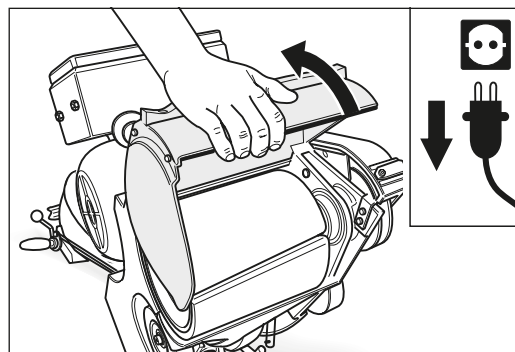

Fig. 30 Pull the power plug out of the socket and swing the drum cover upwards.
- 5 Swing the drum cover upwards on the front of the machine housing (fig. 30).